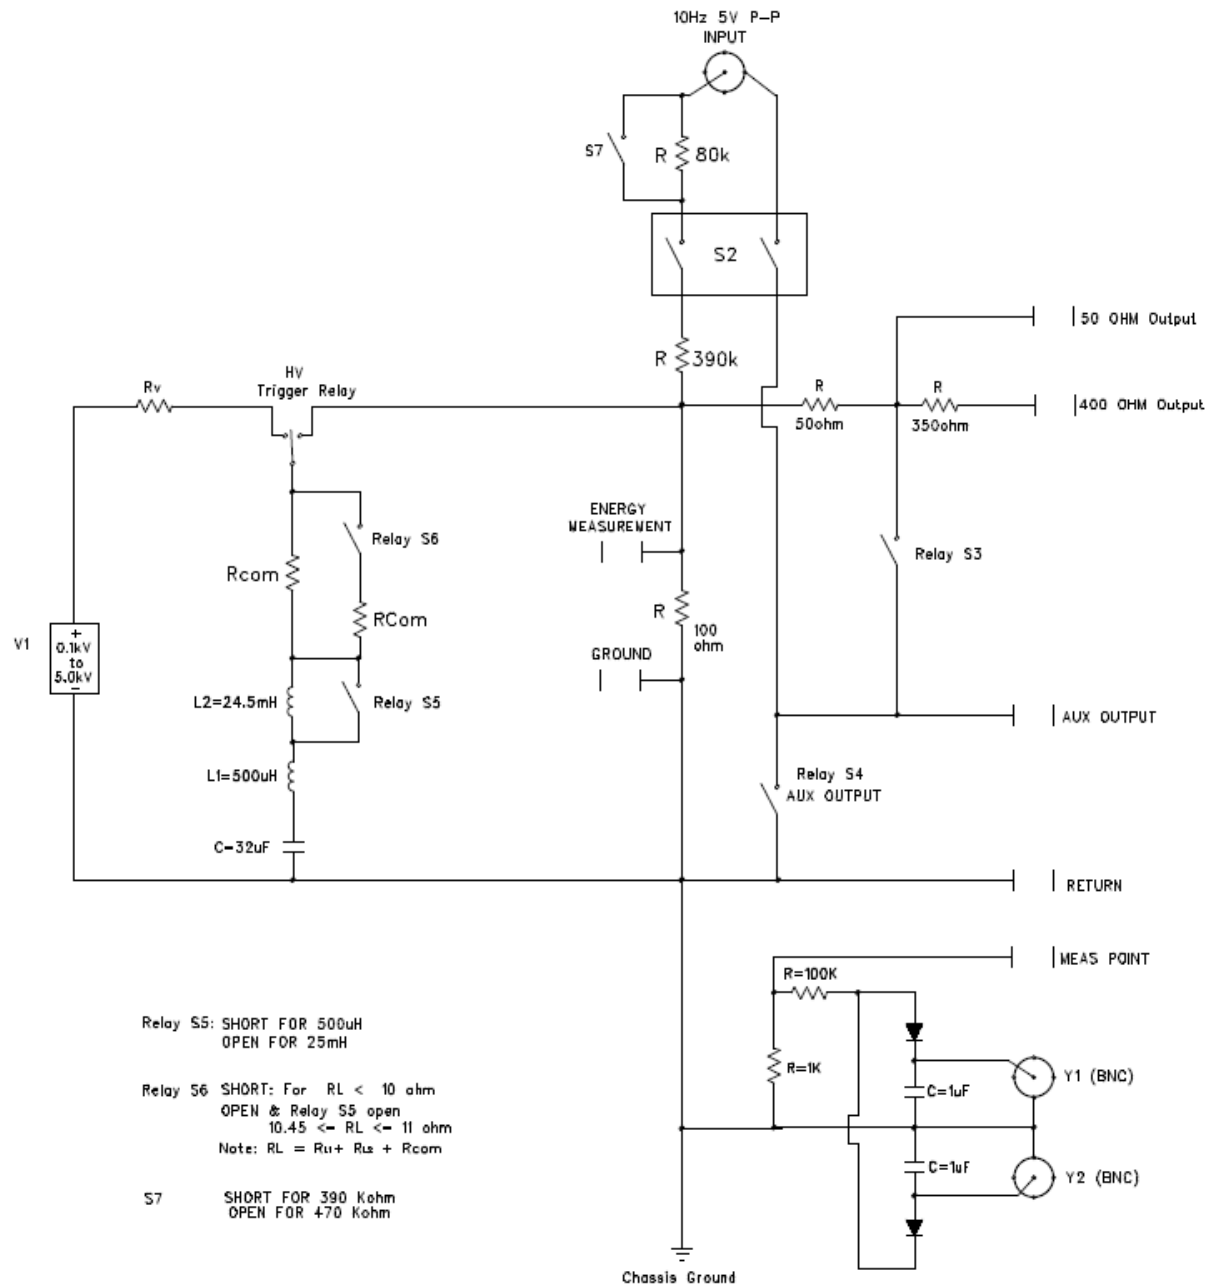

Figure 3. General High Voltage Electrical Diagram– MegaPulse D5-PF
The D5-PF Medical Defibrillation tester consists of two parts; the pulse generation portion and the measurement portion. Please refer to the general electric circuit shown in Figure 3 to show the function of the D5-PF.
3. Set the front panel switches depending on the type of test needed. Follow the front panel directions or see figure 3 for the electrical diagram.